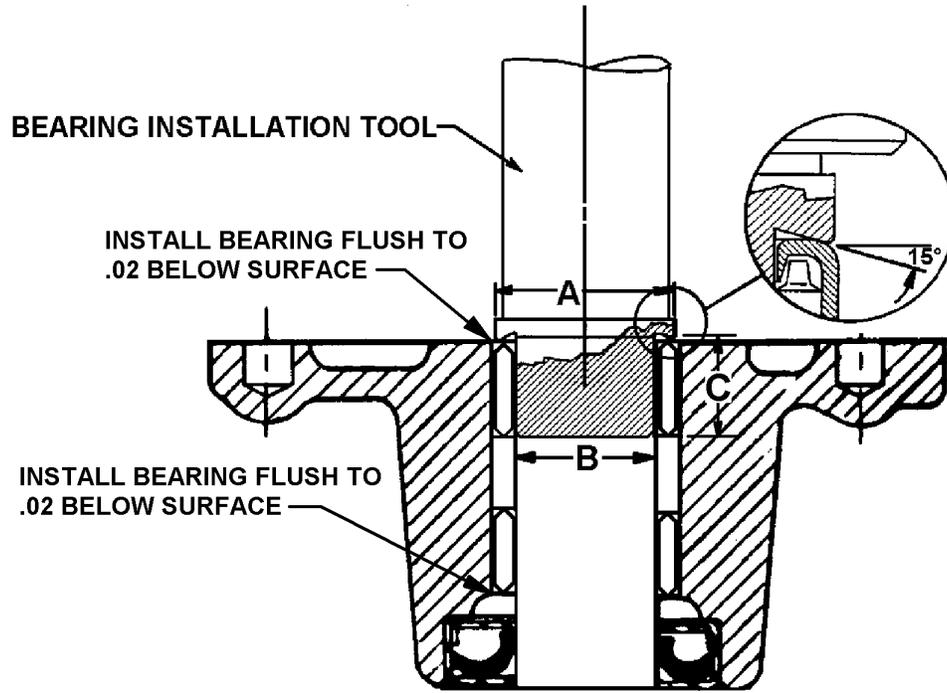

FIGURE 11-4. ACCESSORY DRIVE ADAPTER COVER NEEDLE BEARING INSTALLATION
Using a blind bearing puller, remove needle bearing (23) from scavenge pump cover (22) and discard. Using an arbor press and an installation tool conforming with the specifications in Figure 11-4, "Scavenge Pump Cover Needle bearing Installation," install a new needle bearing (23) in scavenge pump cover (22) to the required specifications.